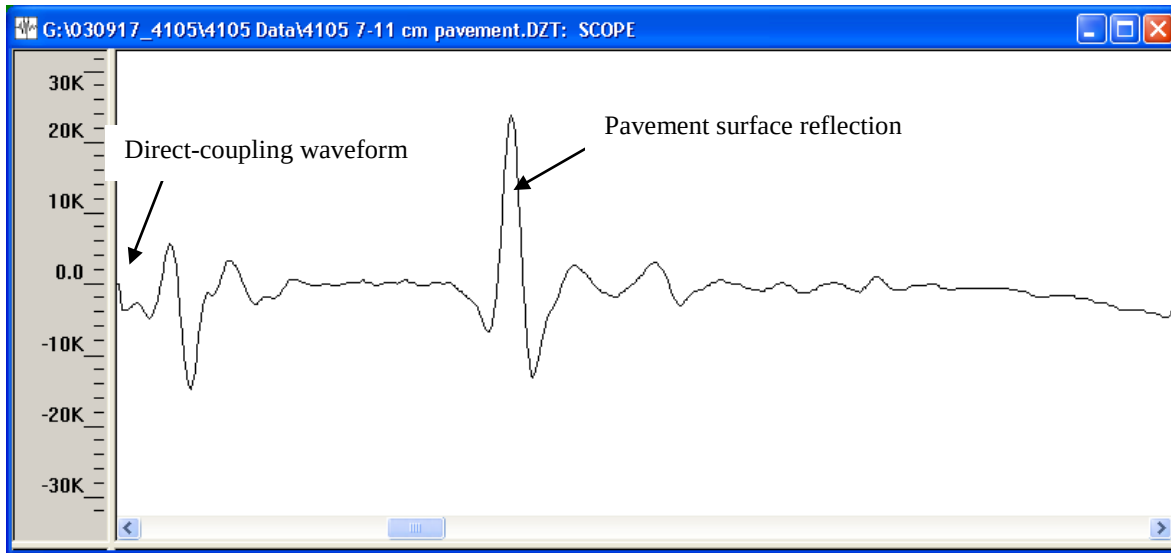
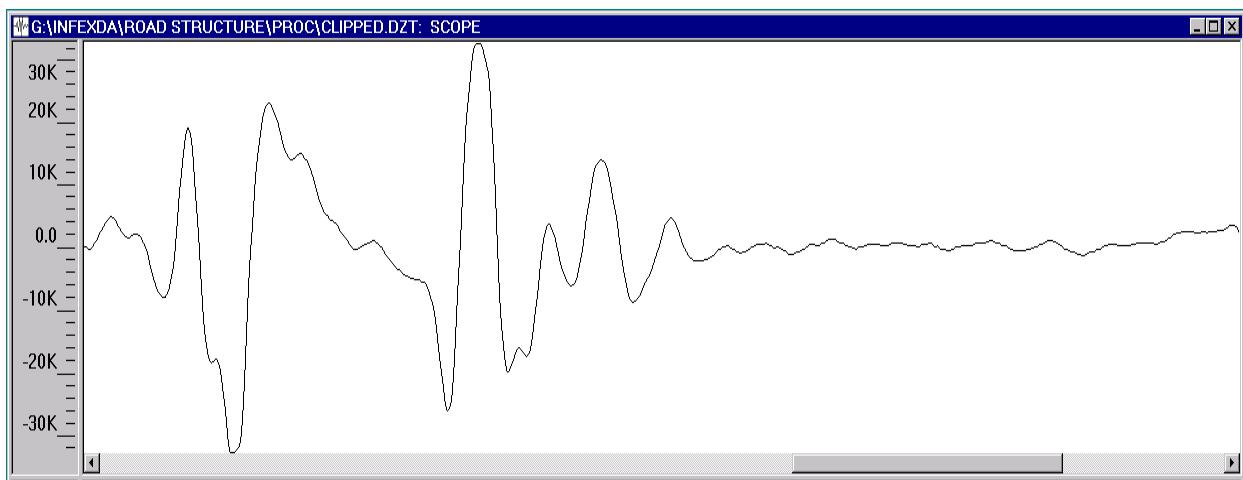

Figure 2: Typical data scan obtained with Model 4105 and recommended software settings.
Figure 3: Example of Model 4105 data scan collected with too much gain.
** Use 1 MHz IIR High Pass to remove signal slopes near bottom of scan (as shown in Figure 2).
Signal position should be adjusted so that the latest arriving wavelet of the direct-coupling is near the top of the scan. This wavelet should always be visible in the data. GSSI's RADAN post-processing software requires the presence of this wavelet in the data. Figure 2 shows a typical scan of data with the signal properly positioned. The largest amplitude reflection will be the pavement surface. The next largest reflection will be the desired direct-coupling waveform. This will occur several nanoseconds before the pavement surface reflection and appear in the Position window (below) as the next significant waveform to the left of that pavement surface. Unlike ground-coupled antennas, the desired direct-coupling waveform is not the first significant return in the trace. You may see another waveform that looks similar to the direct-coupling higher in the trace. You do not want this waveform, but the second one. Since the antenna and the pavement are separated by nothing but air, the trace between the pavement reflector and the desired waveform should be fairly flat (as below). If you accidentally set the position to the incorrect waveform, the post-processing will not work correctly.
Data collection gain for the 4105 antenna should be adjusted so that the peak amplitude of the pavement surface reflection is approximately 2/3 of the total screen width. For example, in Figure 2 the pavement surface reflection has an amplitude value of approximately 20000 and the full screen width is 32000. **It is very important that the pavement surface reflection amplitude (and metal plate reflection when performing calibration) never reach its maximum (i.e., clip).** If they jump off of the top or the bottom of the window, they are collected with too much gain. This will cause errors in the post-processing. Figure 3 shows an improperly gained signal.